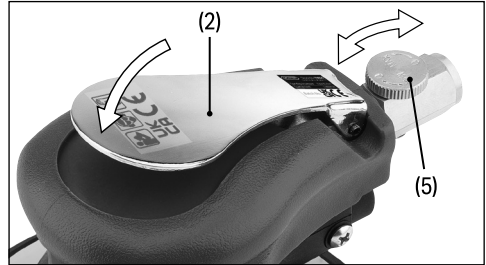

Fig. 4
7.1 Operating the Sander – Fig. 4